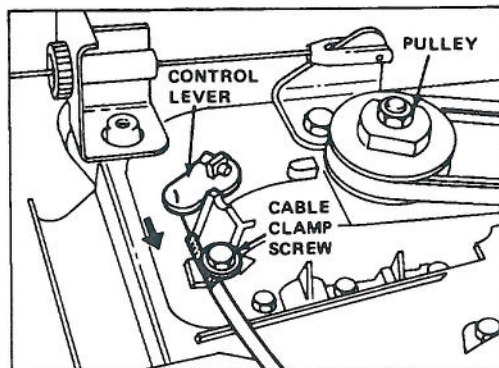

Figure 25
3. ADJUSTMENT (Fig. 25) — Loosen cable clamp screw until cable conduit slides. Push transmission control lever toward cable clamp screw and hold lever in place. Pull cable to remove slack and tighten clamp screw.
4. CHECK ADJUSTMENT — Assure ground speed control is in "N" and pull mower backward: Pulley (Fig. 25) should not rotate. If pulley does rotate, readjust for neutral: refer to step 3.